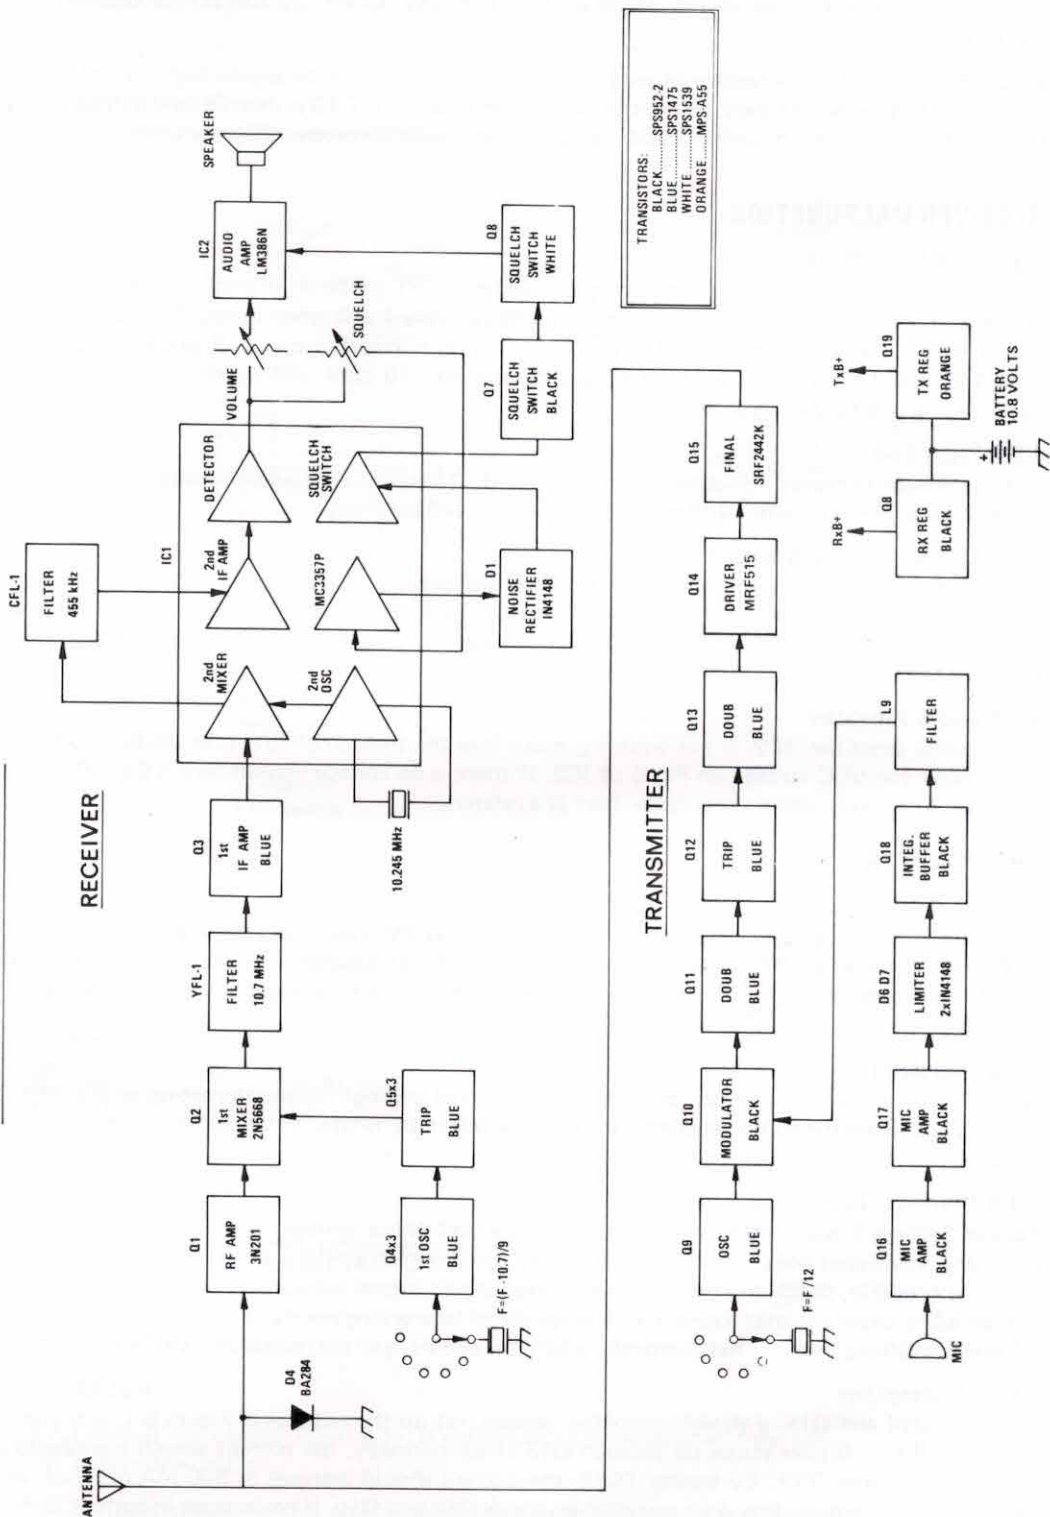

FIGURE 3-1
The Wilson HH-156- D6/D1 is a hand-held VHF frequency modulated (FM) transceiver that incorporates a dual conversion, superheterodyne receiver and a high power transmitter on a single glass-epoxy board mounted in a rugged aluminum die-cast frame. Refer to figure 3-1 in the following circuit description.